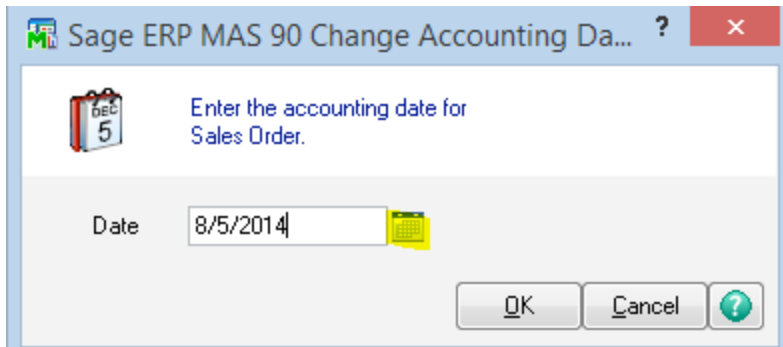

Figure 2.2
**Step Three:** Enter the date for the next day (see Figure 2.2)